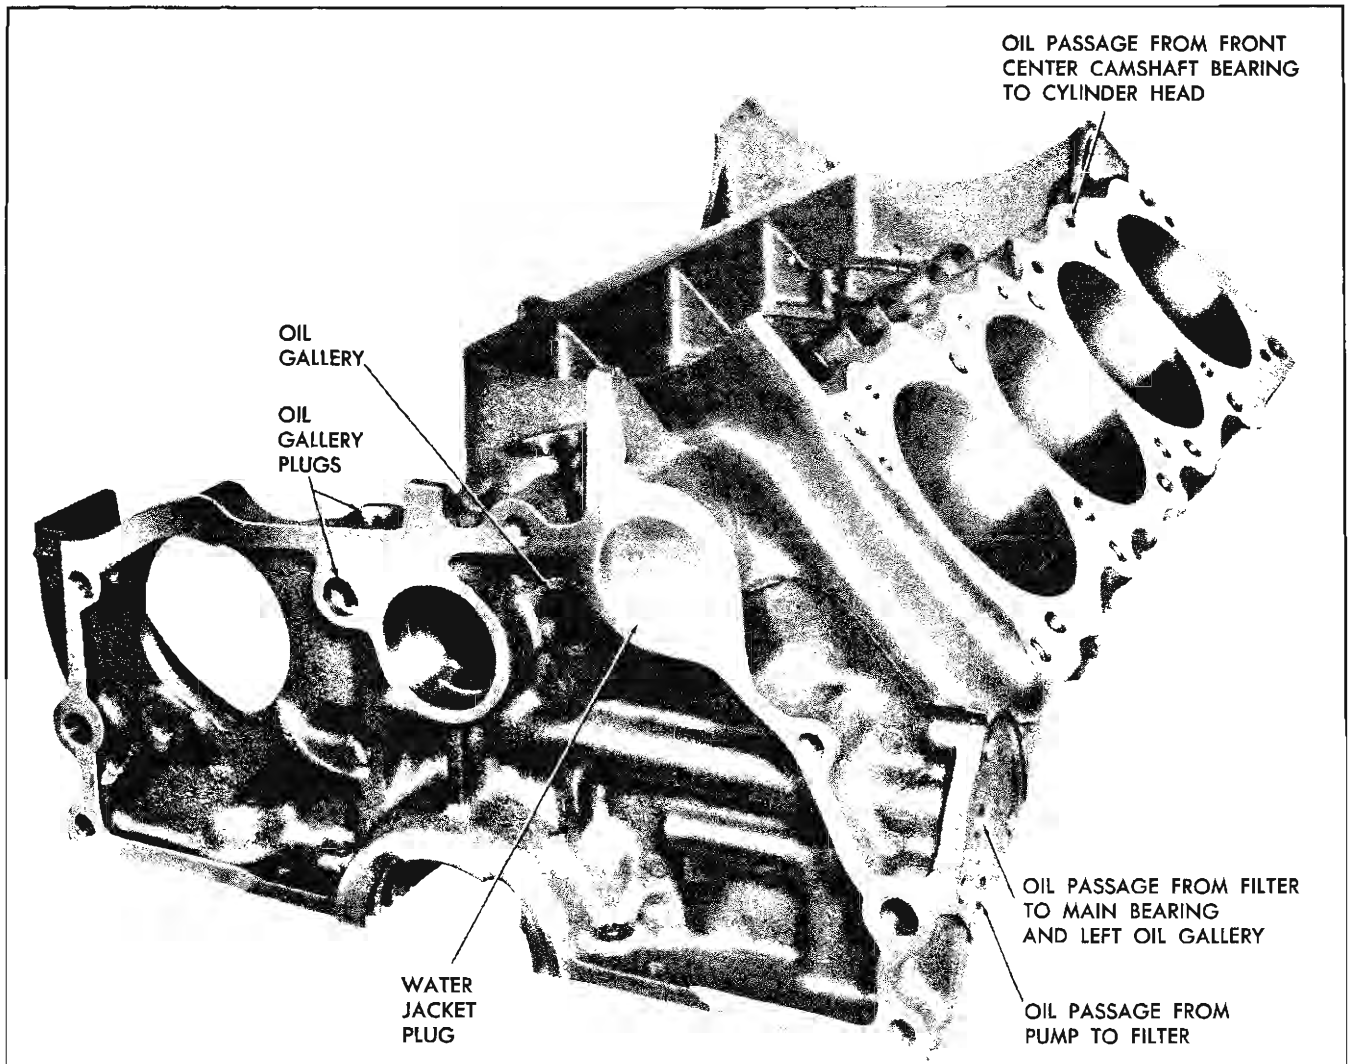

Fig. 6-70 Cylinder Block—View from Right Rear—4 Cylinder Engine
f. Visually check passage from rear center camshaft bearing to left cylinder head (V-8 only) and passage from front center camshaft bearing to right cylinder head (Fig. 6-70 and 6-73).